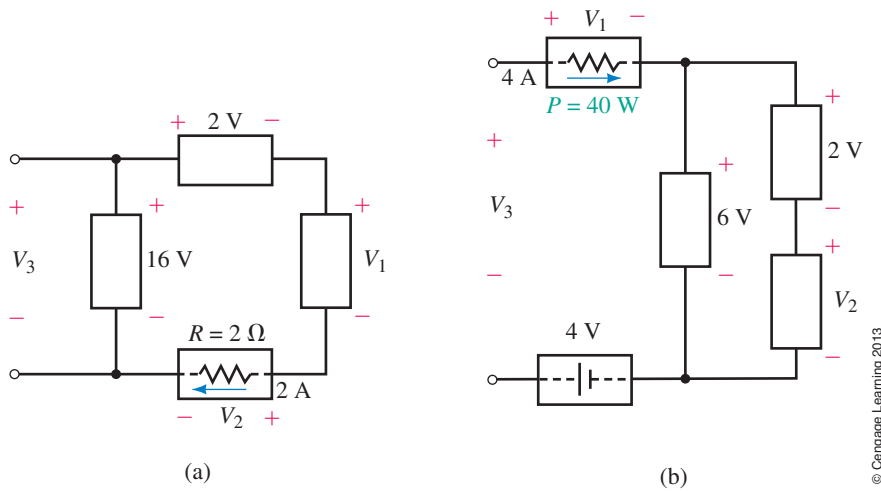

FIGURE 5–50
7. Solve for the unknown voltages in the circuit of Figure 5–51.